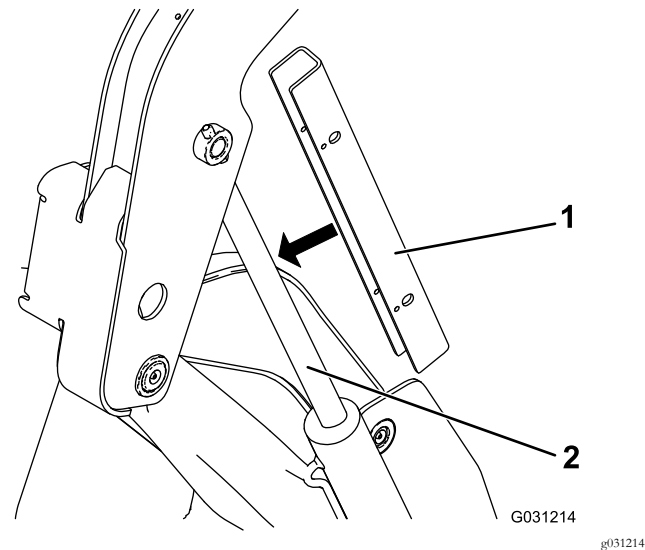

Figure 33
5. Slide the cylinder lock over the lift-cylinder rod (Figure 33).